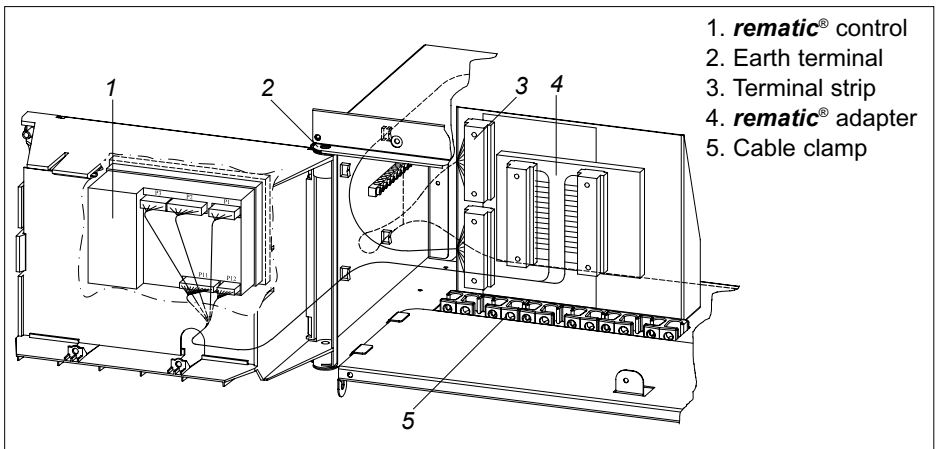

Fig. 16 Fitting 2945 C3 K controller
- **2945 C3 K** - Optimising / weather-compensated boiler control for multiple boilers. These controls are supplied with outside sensor, mounting and wiring kit for installation in the boiler, see fig. 16.